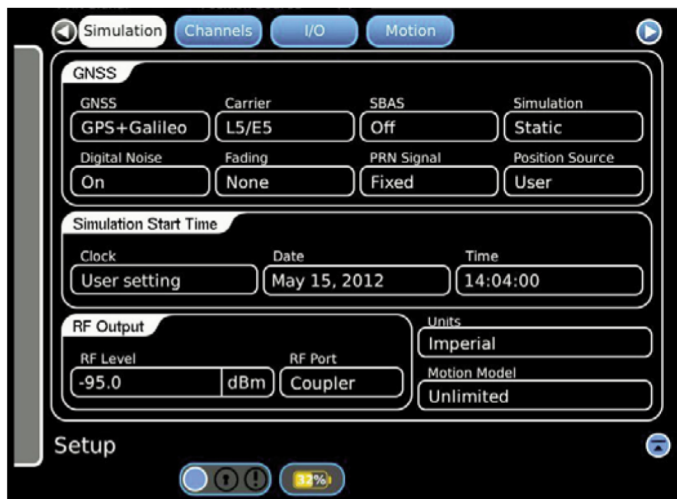

Figure 6
8. On GPSG-1000 #2 Setup Screen in the GNSS fields, set GNSS and Carrier to the other required carrier type and frequency for your multi channel GPS LRU. See Figure 6.